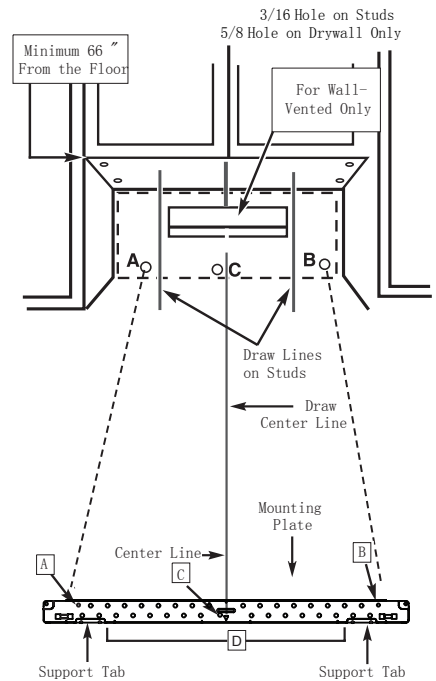
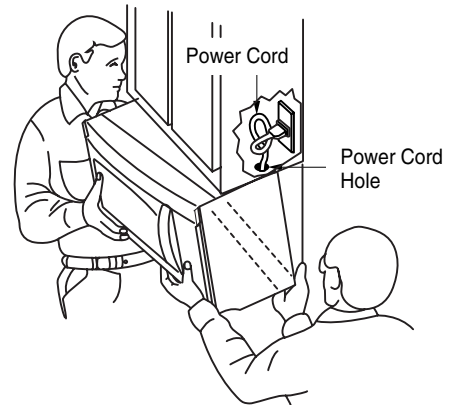

Figure 28
Figure 30
1. Carefully lift microwave oven and hang it on support tabs (See Figure 28) at the bottom of the mounting plate. Reaching through upper cabinet, thread power supply cord through the power supply cord hole in the bottom of the upper cabinet. See Figure 30.